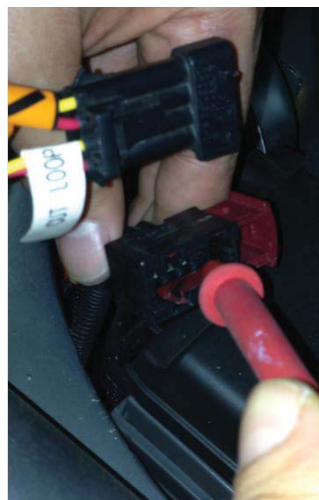

Figure 4
7. Use a voltmeter to check that pin # 4 is 0 VDC with respect to chassis ground (Figure 4).